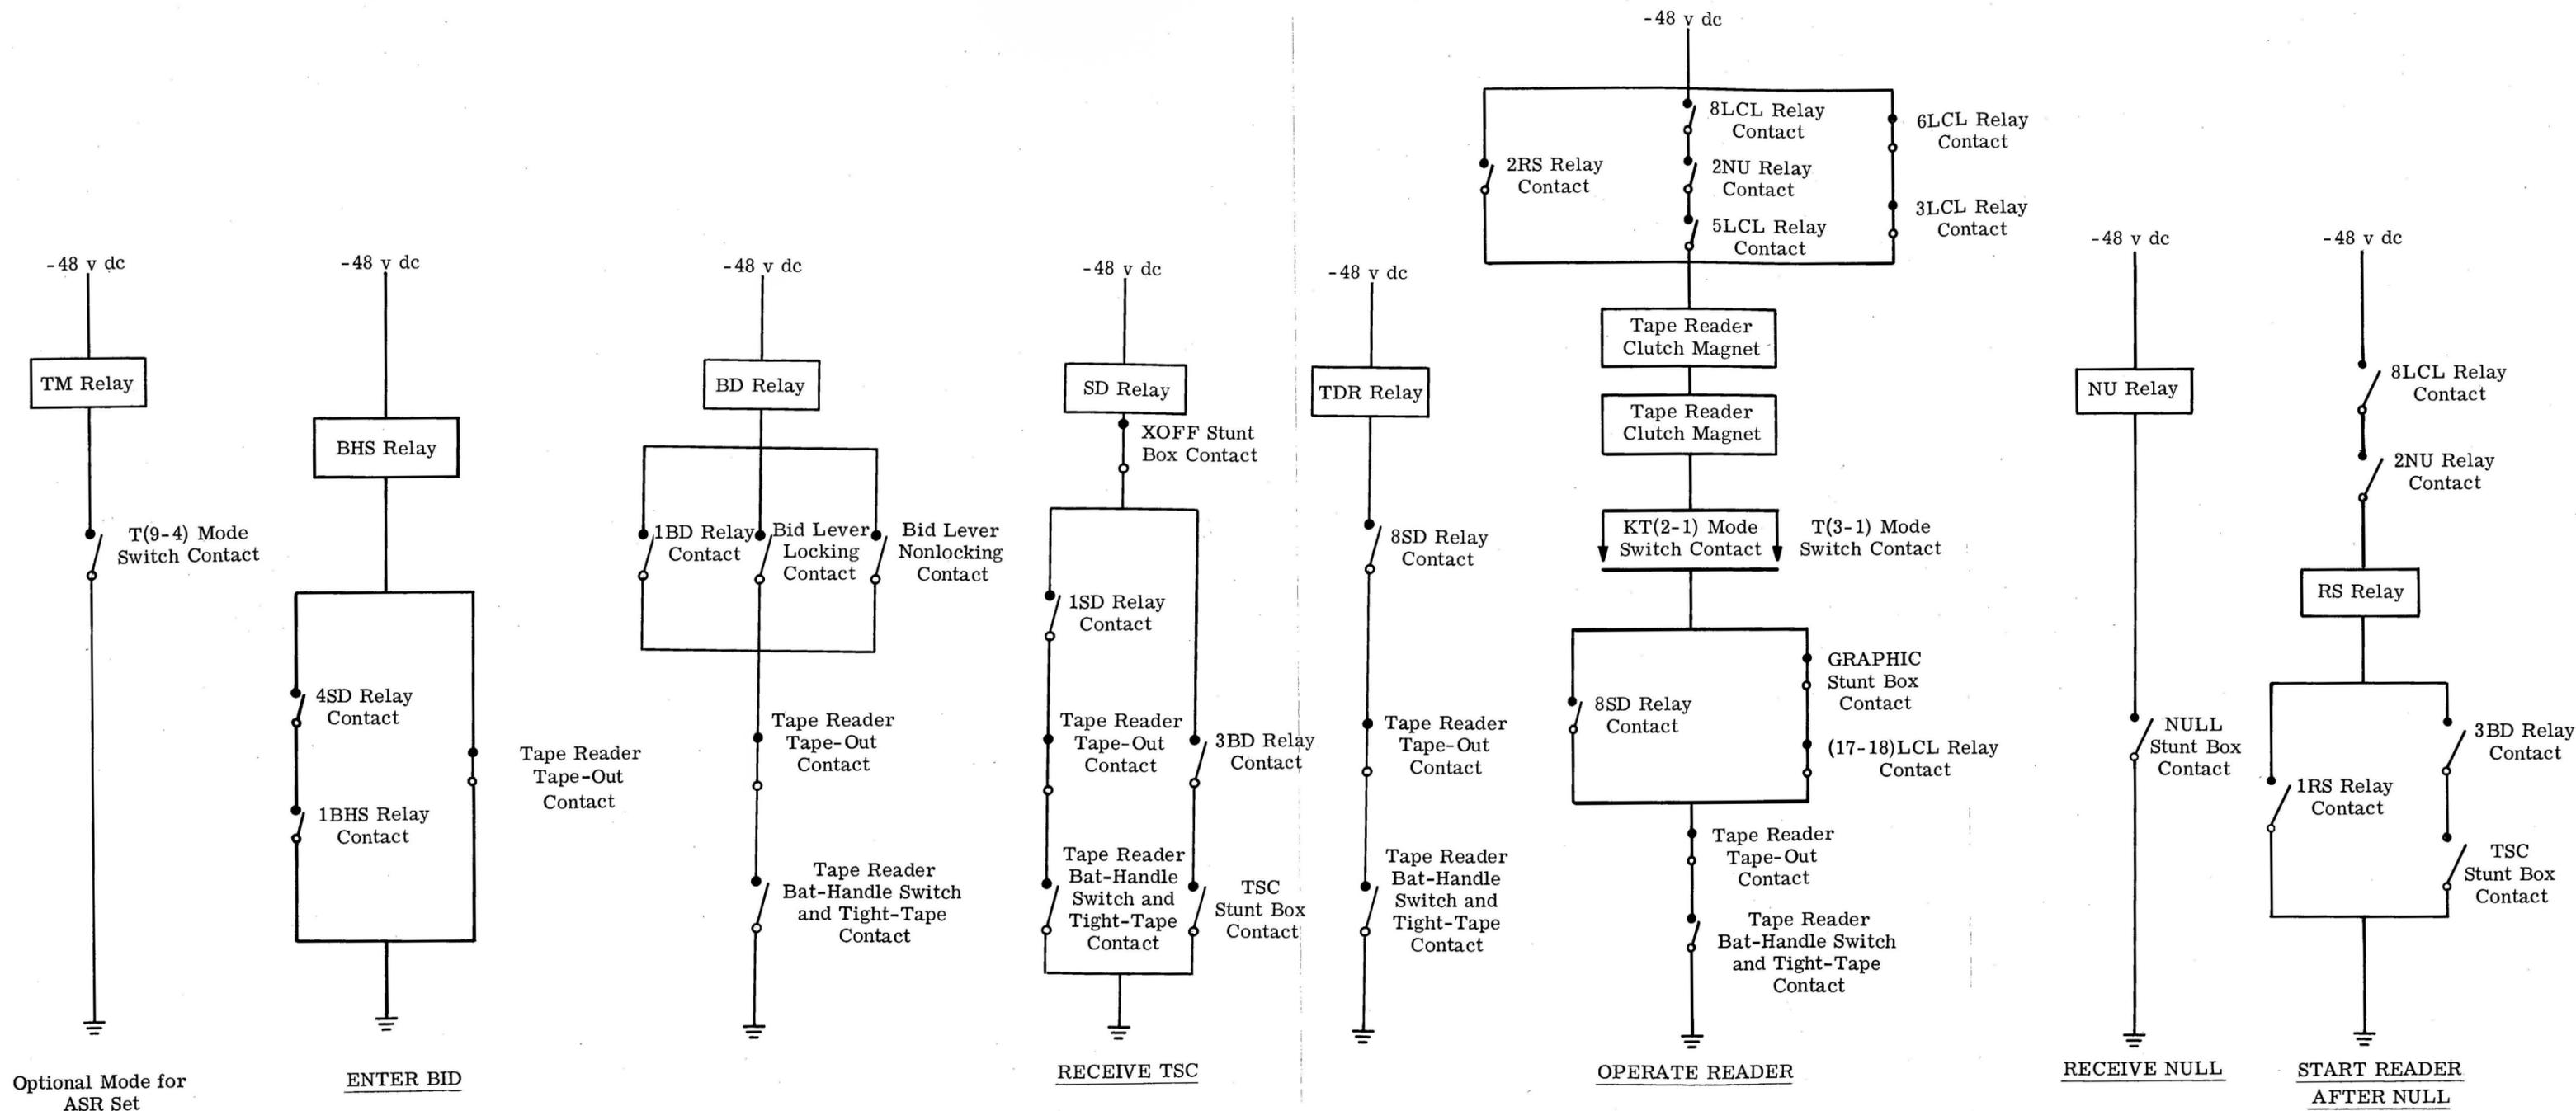

Figure 8 - Control Circuit Elements for Tape Reader
3.24 When prepared tape is inserted in the tape reader head and the tape lid is closed, the tape-out pin is depressed causing the tape-out contact to assume its normal condition. The combined bat-handle switch and tight-tape contact is closed when the bat-handle lever is placed in the RUN position. Closure of this contact causes the BHS relay to energize (Figure 8).
3.39 All messages and control codes are transmitted from the data communications processor to the receivers on the receive leg. Answer-back responses are transmitted to the processor on the send leg. If the send leg is busy, a NULL control code must precede a message in order to stop a tape reader and make the send leg idle (Figure 8).